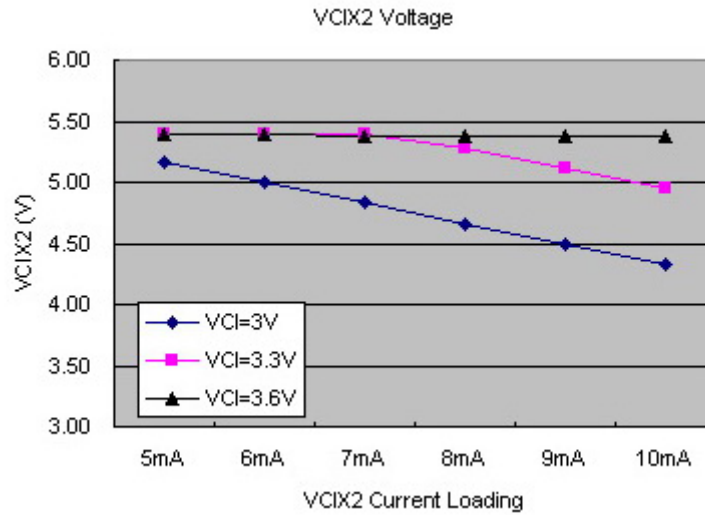

Figure 10.1 VCIX2 Voltage
**Note :** (1) VGH efficiency = VGH / (VDC x n) x 100% (where n = booster factor)
(2) COML < 0V, COMH < VCIX2J, COMH > VCI
(3) VCIX2 voltage is related with VCI voltage & VCIX2 loading. Figure 10.1 shows the estimated VCIX2 voltage under different VCIX2 current loading when ITO for VCIX2 · VCI and VCHS = 10Ω.